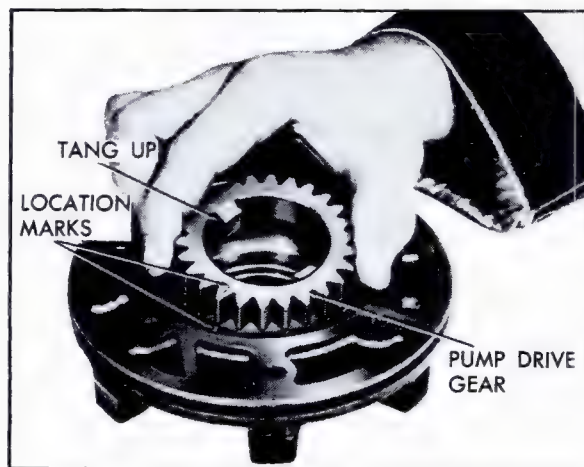

Fig. 7-212 Installing Pump Drive Gear
d. Install drive gear into pump body with drive tangs up, Fig. 7-212.